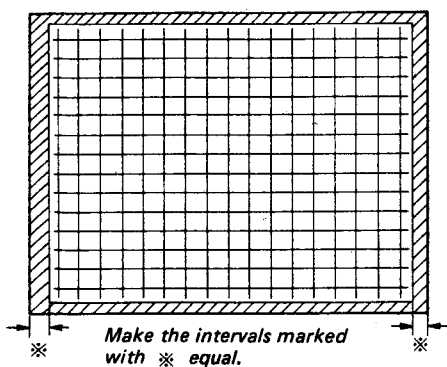

Fig. 5-167.
- (1) Turn RV10 on the E board fully counterclockwise.
- (2) Make this monitor receive the crosshatch signal, set up the UNDER scan mode, and set the BRIGHTNESS knob to MAX.
- (3) Adjust RV25 on the DA board so that the outside raster portions of the picture become equal to at the right and the left sides. (See Fig. 5-167.)
- (4) Set up the NORMAL SCAN and readjust the H. CENTER (with using RV4 on the E board).